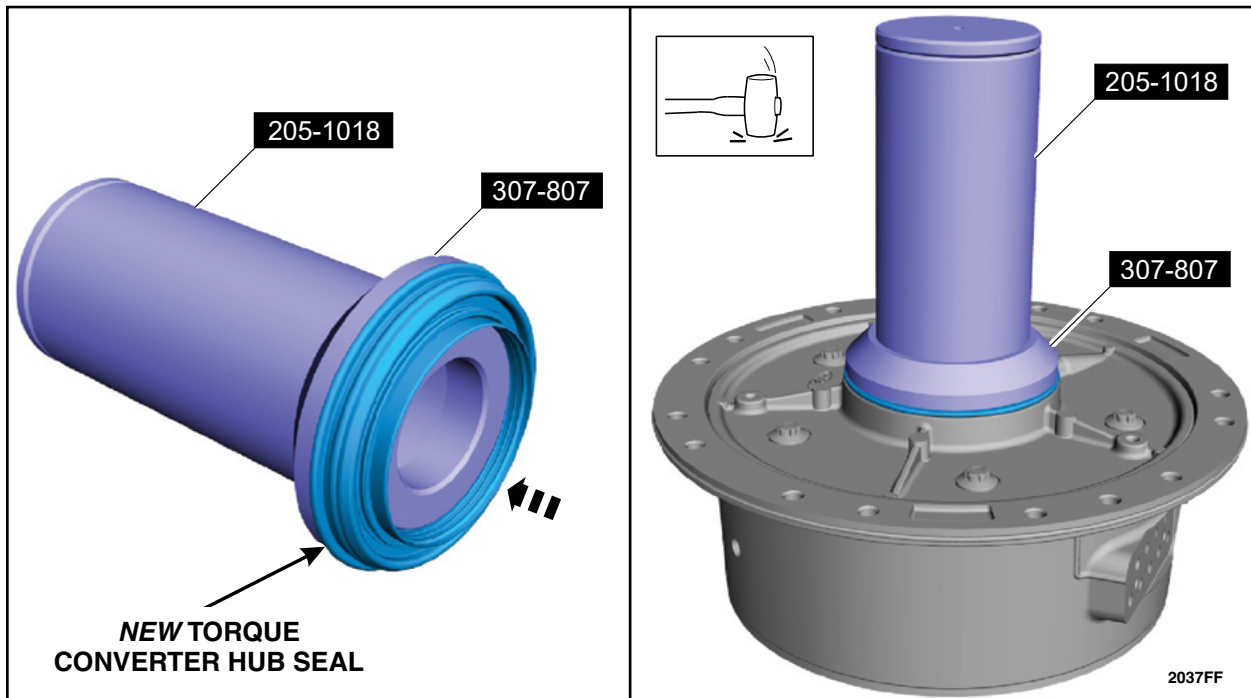

FIGURE 25
27. Install the *new* torque converter hub seal on special tools 205-1018 and 307-807. Using the special tools and a rubber mallet, install the *new* torque converter hub seal. See Figure 25.